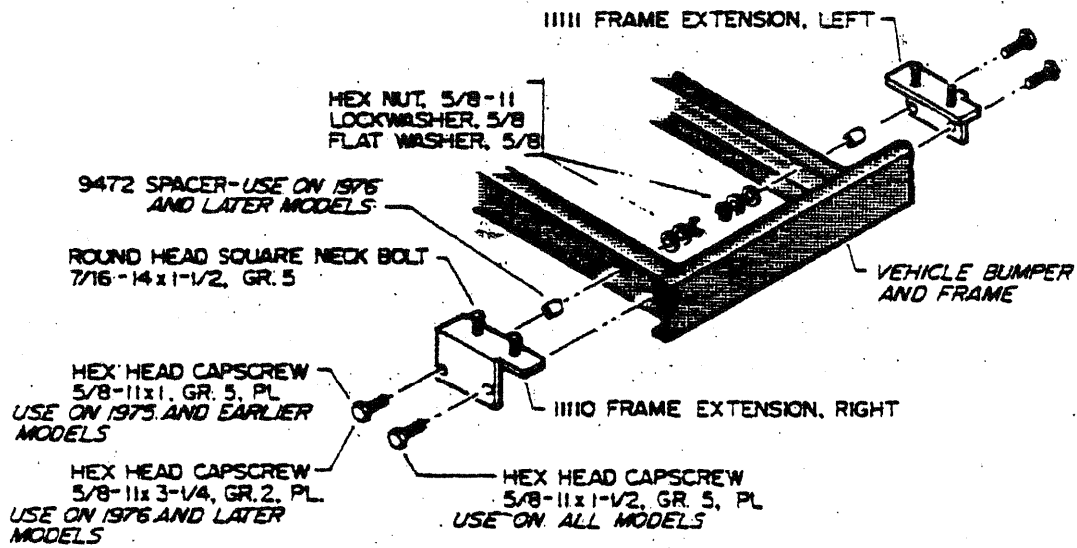

Figure 1
1. Insert two 7/16"-14 x 1-1/2", grade 5, round head, square neck bolts thru each frame extension with the threads pointing up. **See Figure 1.**
**On 75 and earlier models**, align holes in side of frame extension with holes in side of frame and secure with two 5/8"-11 x 1-1/2", grade 5, hex head cap screws, 5/8" lock washers, flat washers, and 5/8"-11 hex nuts. Torque 5/8" to 150 lb/ft. **See Figure 1.** Repeat for opposite side of frame.
**On 76 and later models**, a 5/8"-11 x 3-1/4", grade 2, hex head cap screw must be placed thru the rear hole of the frame extension and a spacer placed on the cap screw before inserting thru frame. After inserting thru frame, secure with 5/8" lock washer, flat washer, and 5/8"-11 hex nut. Torque to 90 lb/ft. Place a 5/8"-11 x 1-1/2", grade 5, hex head cap screw thru the front hole of the frame extension and the frame and secure with 5/8" lock washer, flat washer, and 5/8"-11 hex nut. Torque to 150 lb/ft. **See Figure 1.** Repeat for opposite side of frame.